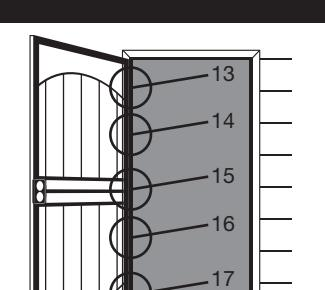

Fig. 16
Fig. 16 - Open door. On the inside of hinge side z-bar jamb (A) insert mounting screws (L) into holes (13-17) and tighten. Close and open door to ensure proper fit, adjust if necessary.